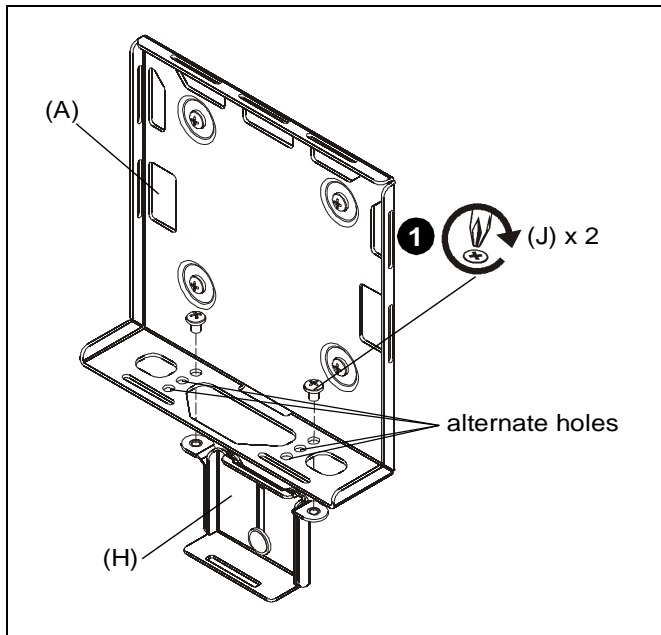

Figure 4
1. Use two #10-24 x 1/4" Phillips pan machine screws (J) to secure power brick bracket (H) to media player bracket (A). (See Figure 4)
**NOTE:** Alternate holes may be used depending on the size and shape of the power brick adapter. (See Figure 4)
2. Use cable ties (K) as necessary to secure power brick adapter to bracket (H).